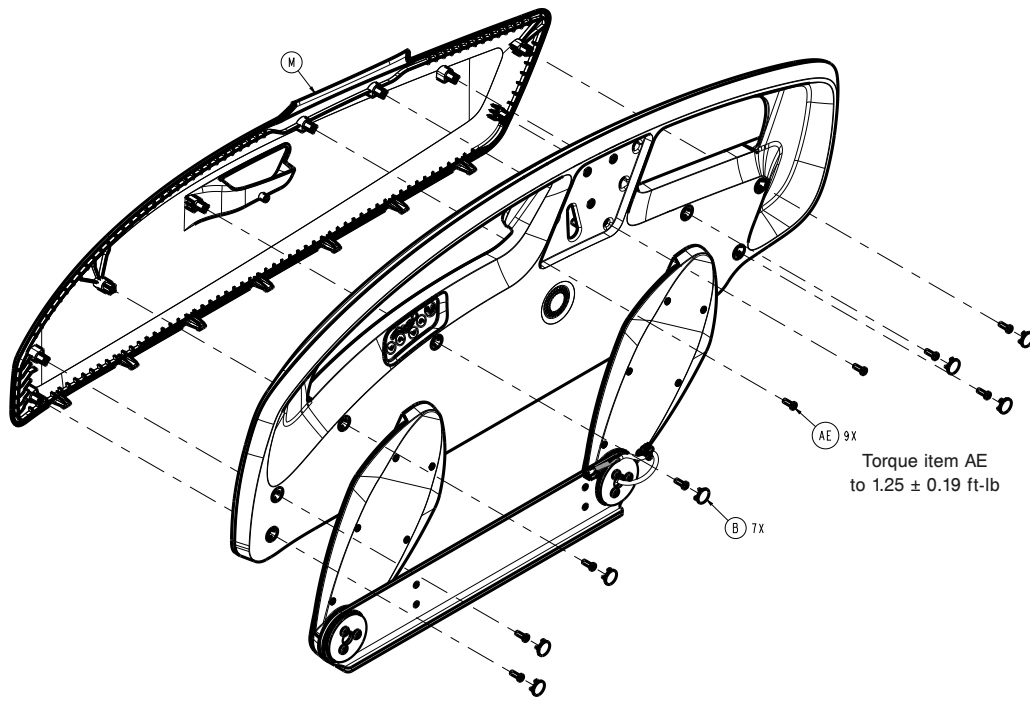

Figure 33 – Replacing the siderail control board
6. Using a pick, remove the seven screw covers (B) from the inside of the siderail (Figure 33). Discard the screw covers.
- Using a T25 Torx driver, remove the nine screws (AE) that secure the head cover (M) to the siderail assembly (Figure 33). Save the screws. Remove and save the outer siderail panel.
- Using a T25 Torx driver, remove the nine screws (AE) that secure the head cover (M) to the siderail assembly (Figure 33). Remove the outer siderail panel.
- Using a pick, remove the nine screw covers (B) from the inside of the siderail (Figure 33). Discard the screw covers.
9. Using a T25 Torx driver, remove the nine screws (AE) that secure the head cover (M) to the siderail assembly (Figure 33). Save the screws. Remove and save the outer siderail panel.